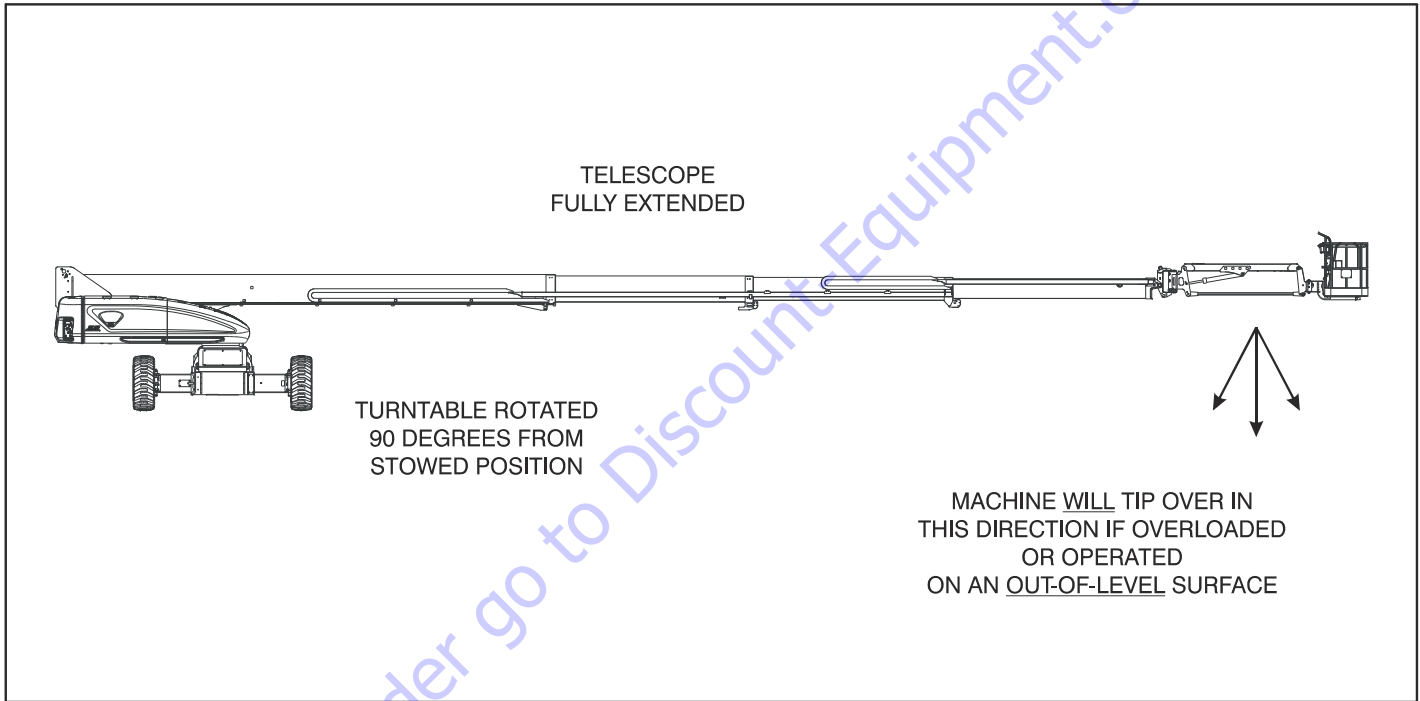
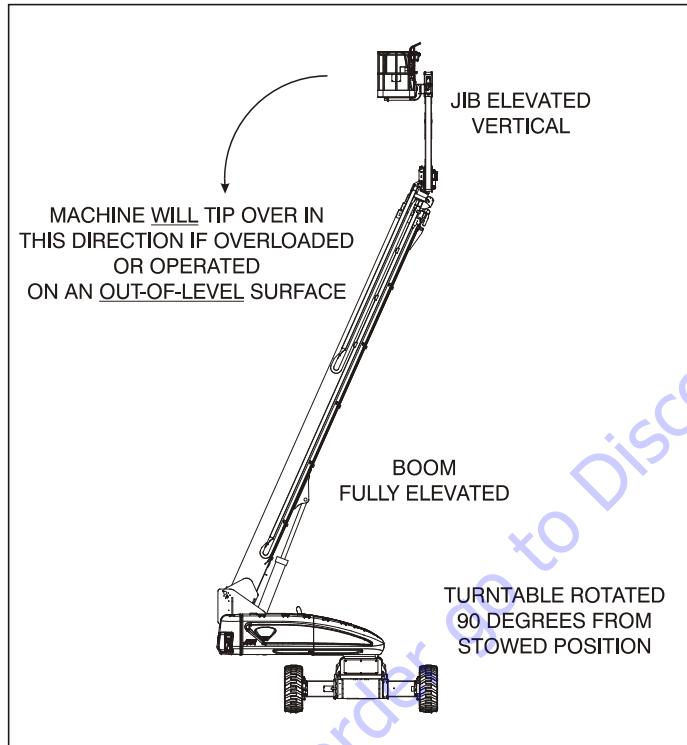

Figure 4-2. Position of Least Forward Stability
Figure 4-3. Position of Least Backward Stability
Machine stability is based on two (2) conditions which are called FORWARD and BACKWARD stability. The machine's position of least FORWARD stability is shown in (See Figure 4-2.), and its position of least BACKWARD stability is shown in (See Figure 4-3.)